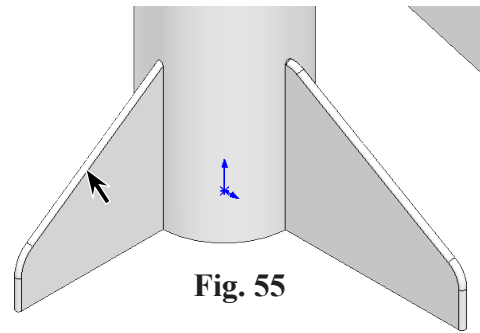

Fig. 55
Step 1. Add a Full Round Fillet  to leading edge of V Stab, Fig. 55.